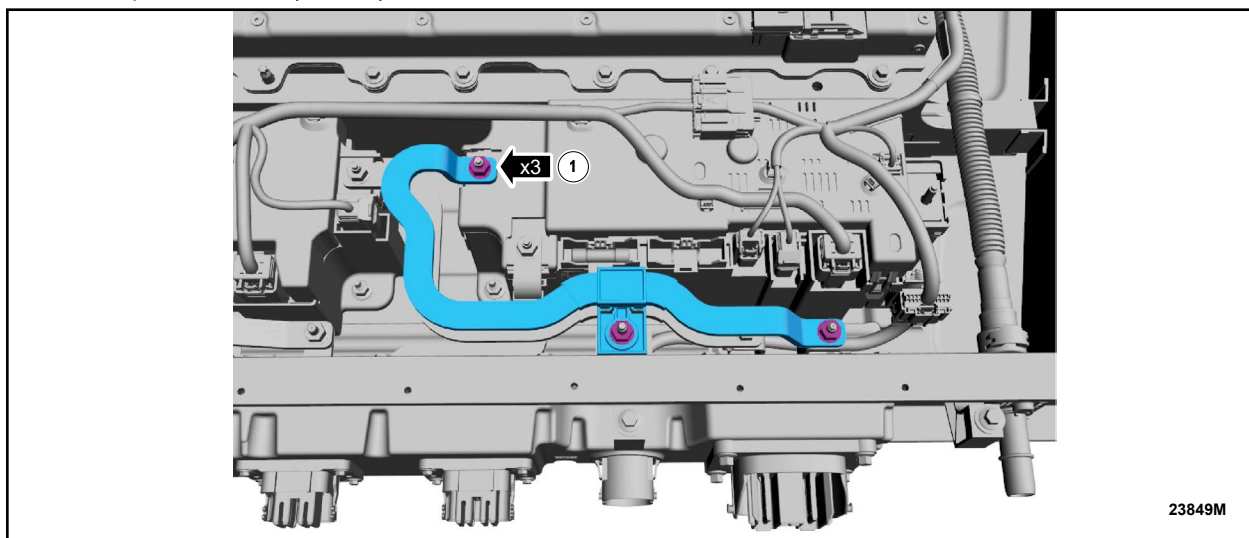

FIGURE 12
26. Remove the nuts and the bus bar. See Figure 12.